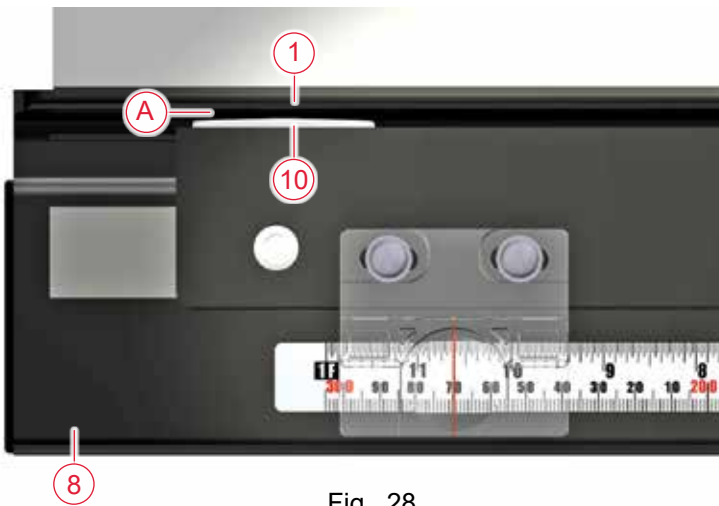
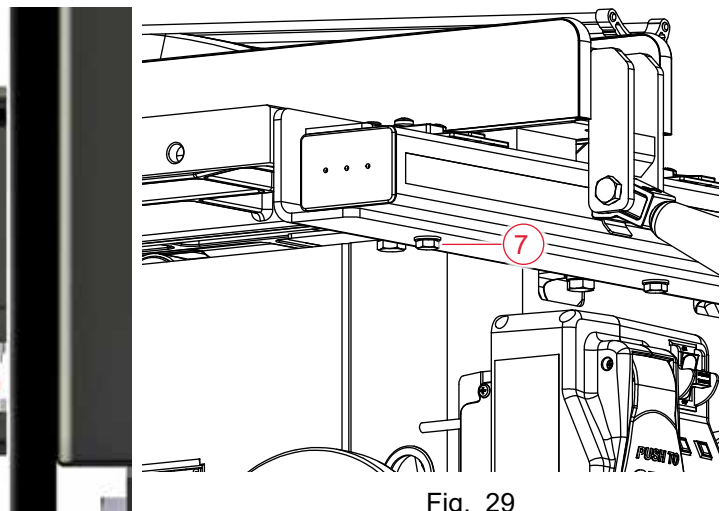

Fig. 28
Fig. 29
**Glide Clearance:** Once the fence is correctly clamped to the main tube (8), adjust the position of the left end of the tube so that there is only a small gap (approximately 1/16") (A) between the front rail (1) and the rear glide plates (10) on the fence (Fig. 28). Tighten the left-most M8 x 16 hex head bolt (7) that mounts the tube to the front rail using a 13 mm wrench (Fig. 29).